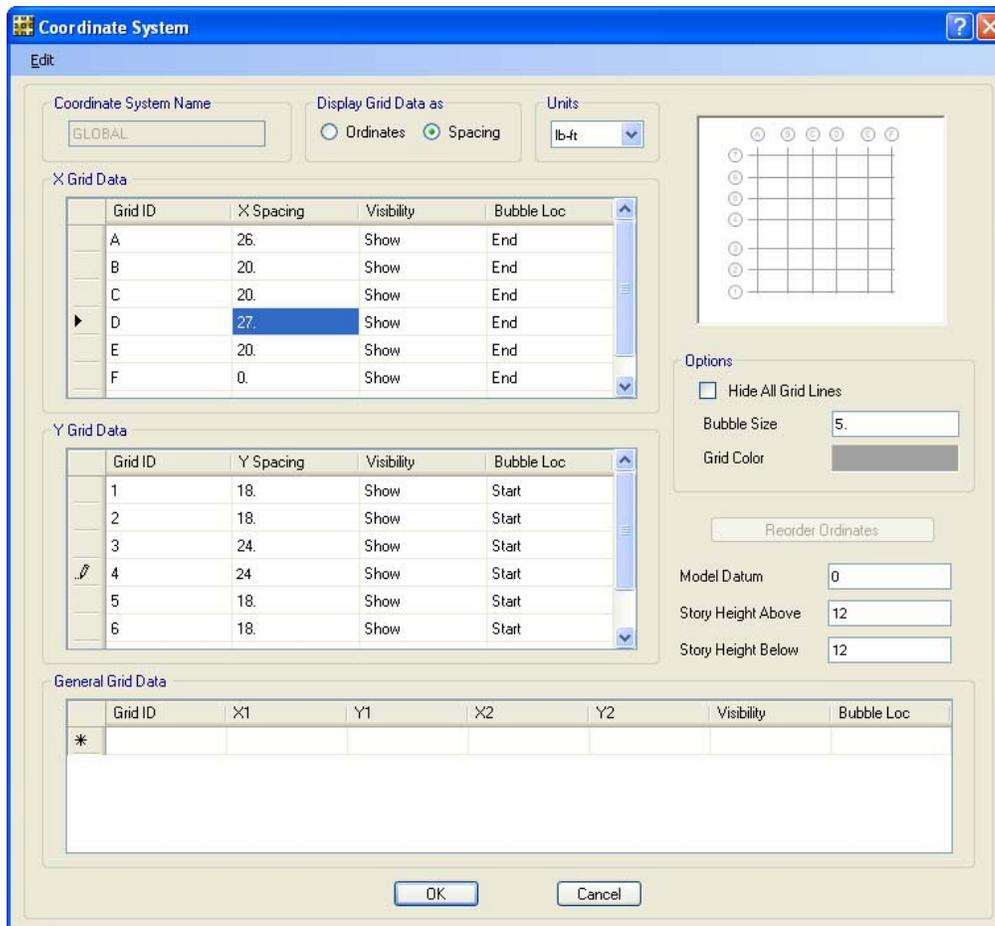

Figure 5 Coordinate System form
- F. Click the **Edit Grid** button to display the form shown in Figure 5. The Coordinate System form is used to modify and edit the grid definitions, as well as set the top of model datum. It also allows the user to set the display options associated with the grids.